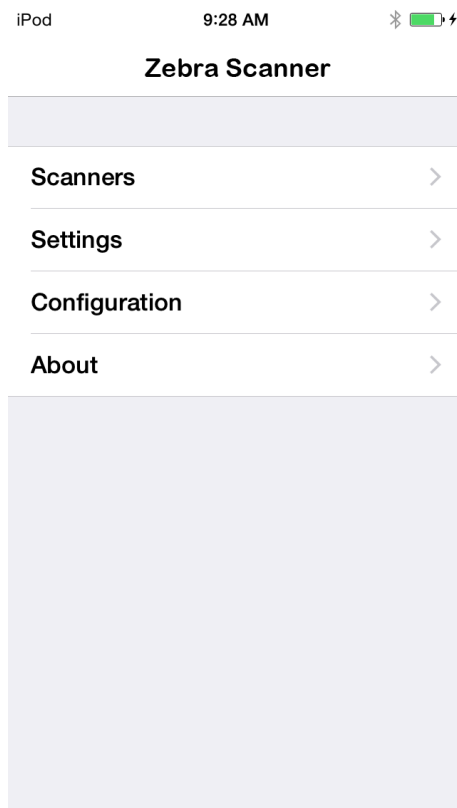

Figure 6-1 *Home Screen*
5. Touch the *Zebra Scanner for iOS* icon () on the device to launch the *Home* screen (Figure 6-1).
To display the *Scanners* screen touch *Scanners* from the *Home* screen (Figure 6-1). The *Scanners* screen displays all scanners paired and connected to the device. Select a device in the list to display the *Active Scanner* screen (see Active Scanner Screen on page 6-5). If no scanners were previously paired/connected, to the device, a connection is required (see Connecting the Device and the Scanner).
2. Touch *Scanners* from the *Home* screen (*Figure 6-1*). The following screen displays when the *Auto Detection* option is enabled.
To display the *Settings* screen touch *Settings* from the *Home* screen (*Figure 6-1*).
To display the *Scanner Configurations* screen touch *Configuration* from the *Home* screen (Figure 6-1).
To display the *About* screen touch *About* from the *Home* screen (Figure 6-1).